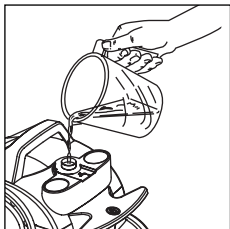

fig. 2
- You should fill the steam generator (fig. 2) with a maximum of 1.2 litres of tap water (overfilling could cause the appliance to malfunction).